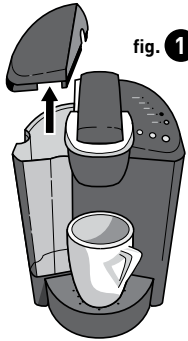

fig. 1
3. Remove the Water Reservoir from brewer by first removing Lid from Reservoir (fig. 1), then lifting Reservoir straight up and away from brewer (may be tight). Rinse with fresh water.